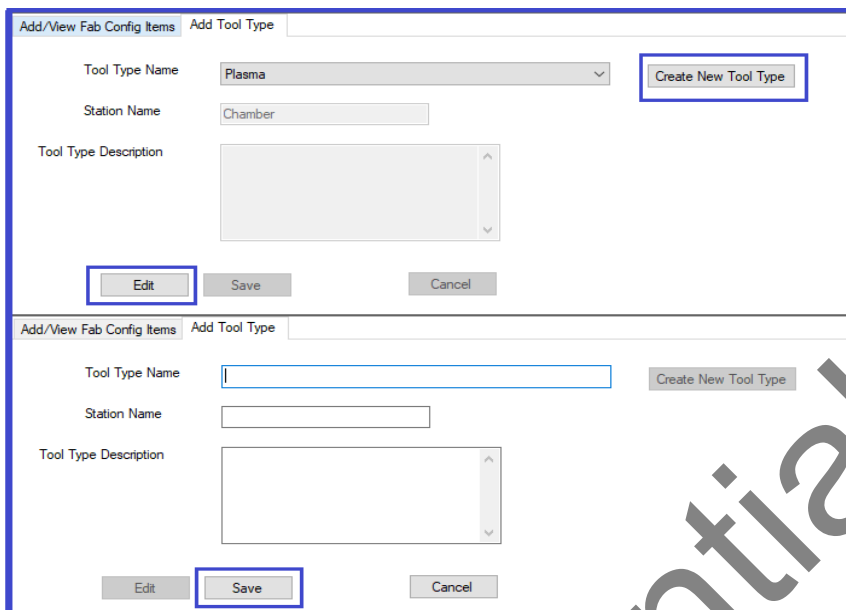

Figure 5-13 To add/edit the Tool type information
10. Click the **Create New Tool Type**, then enter the **Tool Type Name**, **Station Name** and **Tool Type Description** (optional). Click on **Save** to add the newly created **Tool Type**. See Figure 5-13.
11. You can modify the existing **Tool Type** using the **Edit** option. See Figure 5-13.